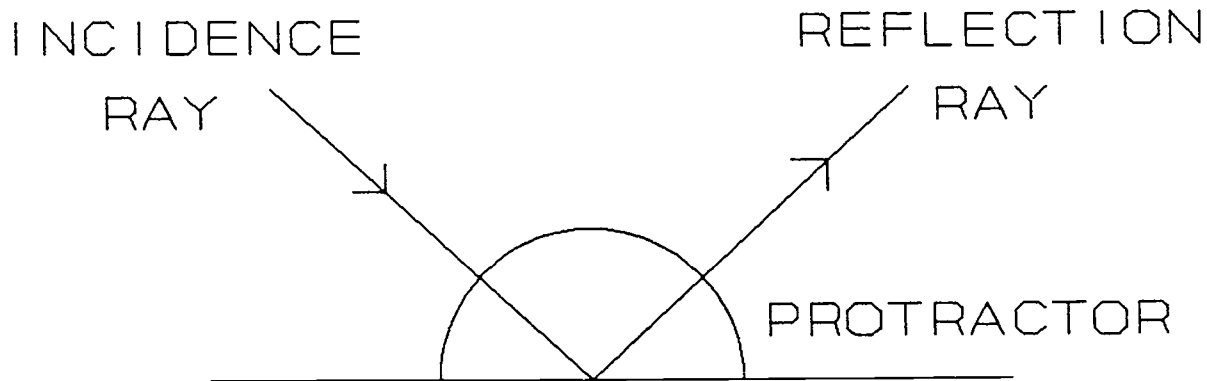

Figure C-2-2
5. The other person should place the protractor onto the mirror, standing vertically with the center point placed at the point of reflection (see Figure C-2-2, "Using Protractor").